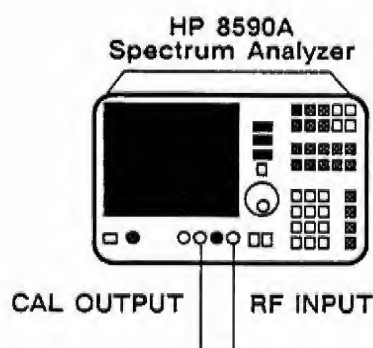

Figure 2-8. Crystal and LC Bandwidth Filter Adjustments
- Connect the equipment as shown in Figure 2-8.